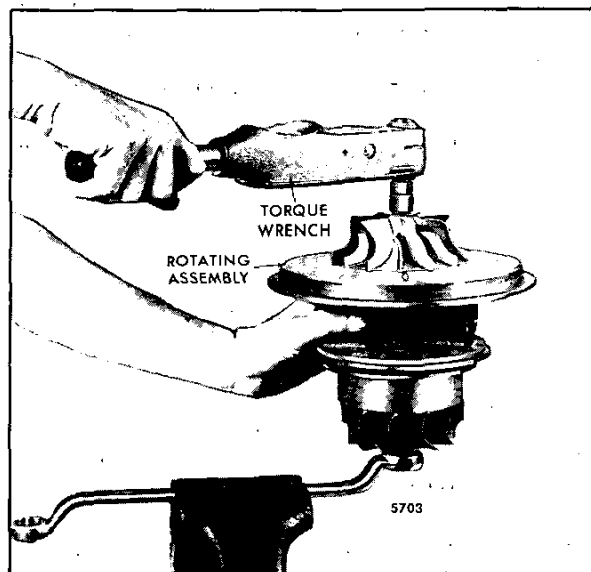

Fig. 17 - Tightening Compressor Locknut
16. Lubricate the back face and threads of the lock nut with anti-seize compound. Install the lock nut on the shaft finger tight (until elastic of nut engages shaft threads) and place an 11/16" socket on the turbine wheel lug to prevent the shaft from turning. Use a torque wrench to tighten the 5/16"-24 lock nut to 18 Nm (13 lb-ft) torque (Fig. 17).